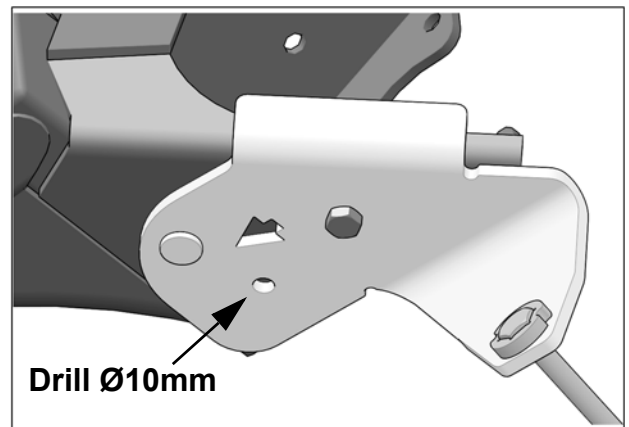

Fig. 9
8. Using the free anchor bracket hole as a template, drill out an additional $\text{\O}10\text{mm}$ hole in trailing arm of vehicle. See Fig. 9